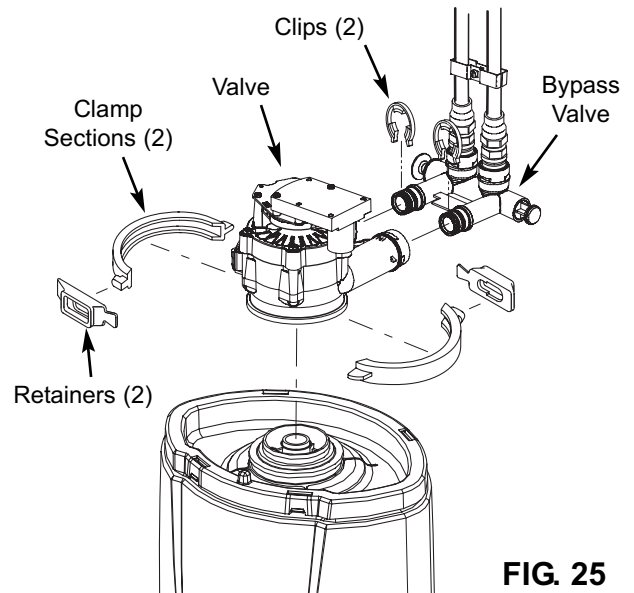

FIG. 25
6. Remove the clamp retainers (2) and clamp sections (2) that hold the valve to the tank (See Figure 25). Lift upward to remove the valve.